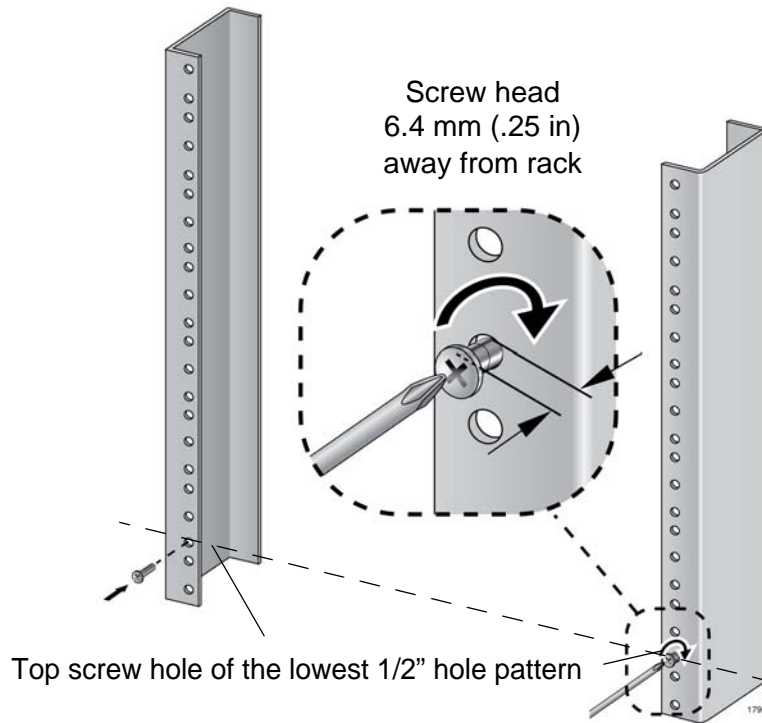

Figure 33. Rack Mounting Hole Locations
4. Install one rack mount screw in each vertical rail, at the same height in the top screw hole of the lowest 1/2" hole pattern, as shown in Figure 33. The screws are used to support the chassis while you secure it to the rack. Do not fully tighten the screws at this time. The screw heads should protrude from the rack approximately 6.4 mm (.25 in).